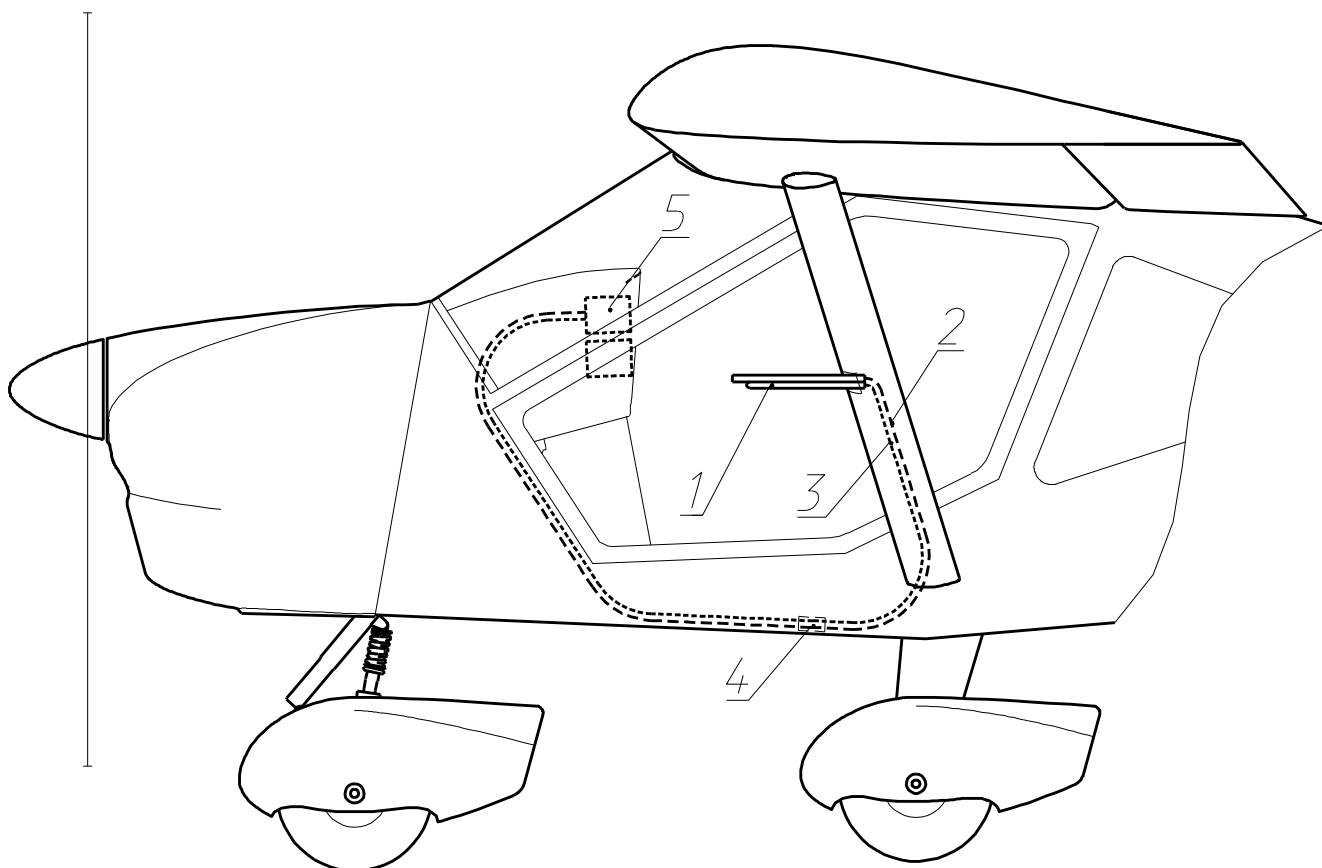

Fig. 7 Full and static pressure system
The full and static pressure system (see **Fig. 7**) supplies the full (dynamic) and static pressure of the outside air to the instruments measuring the flight parameters: airspeed, rate of climb and altitude. The system consists of the full and static pressure probe (1) and full (2) and static (3) pressure lines connecting the probe to the instruments. Full and static pressure lines have joints (4) for disconnecting the lines when the left wing is removed during aircraft disassembly.